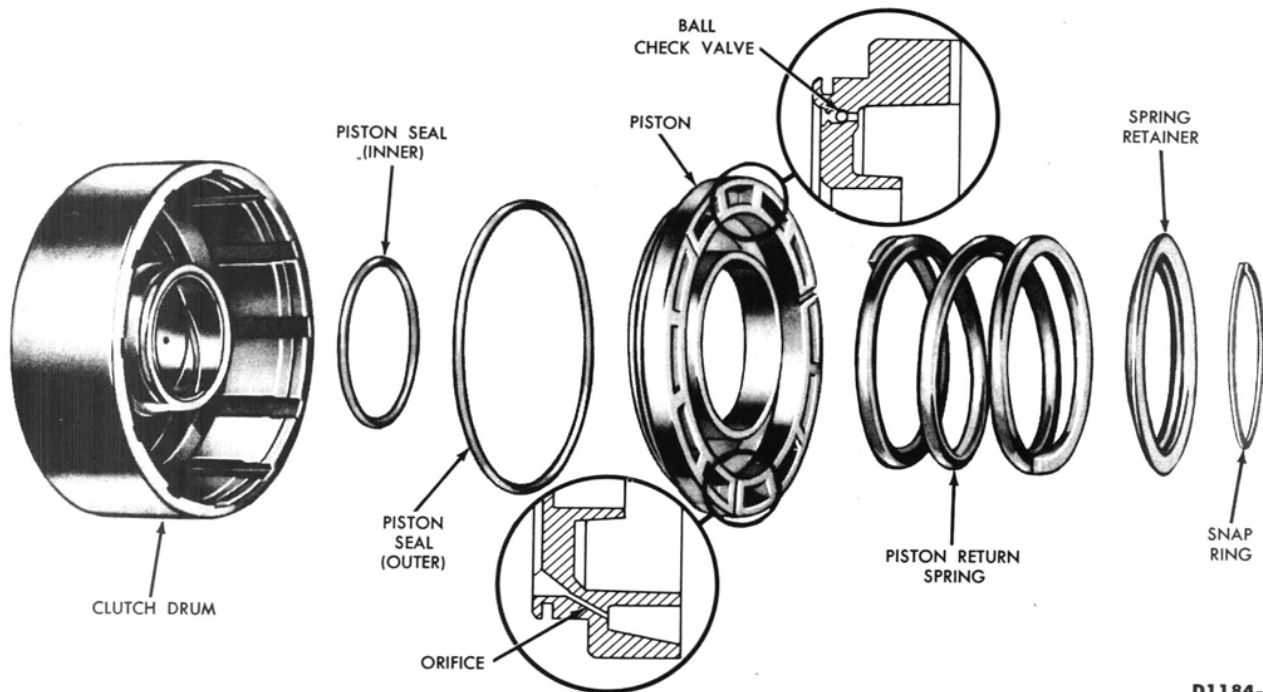

Fig. 13 —Clutch Drum and Piston
- ⊗ Remove the piston outer seal from the piston. Remove the piston inner seal from the drum. (Fig. 13)